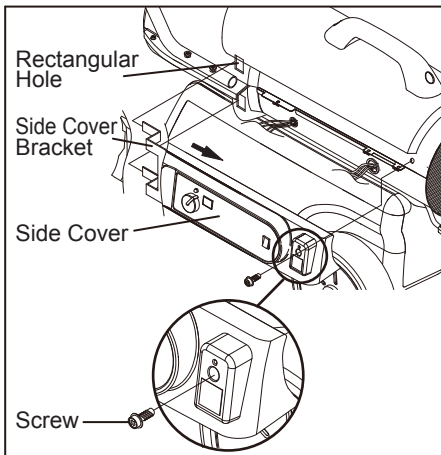

Figure 21. Removing side cover
2. Remove the screw that secures the Side Cover, as shown in Figure 21.
3. Push out for arrow direction and extract side cover's bracket from rectangular hole and separate side cover (See Figure 21).